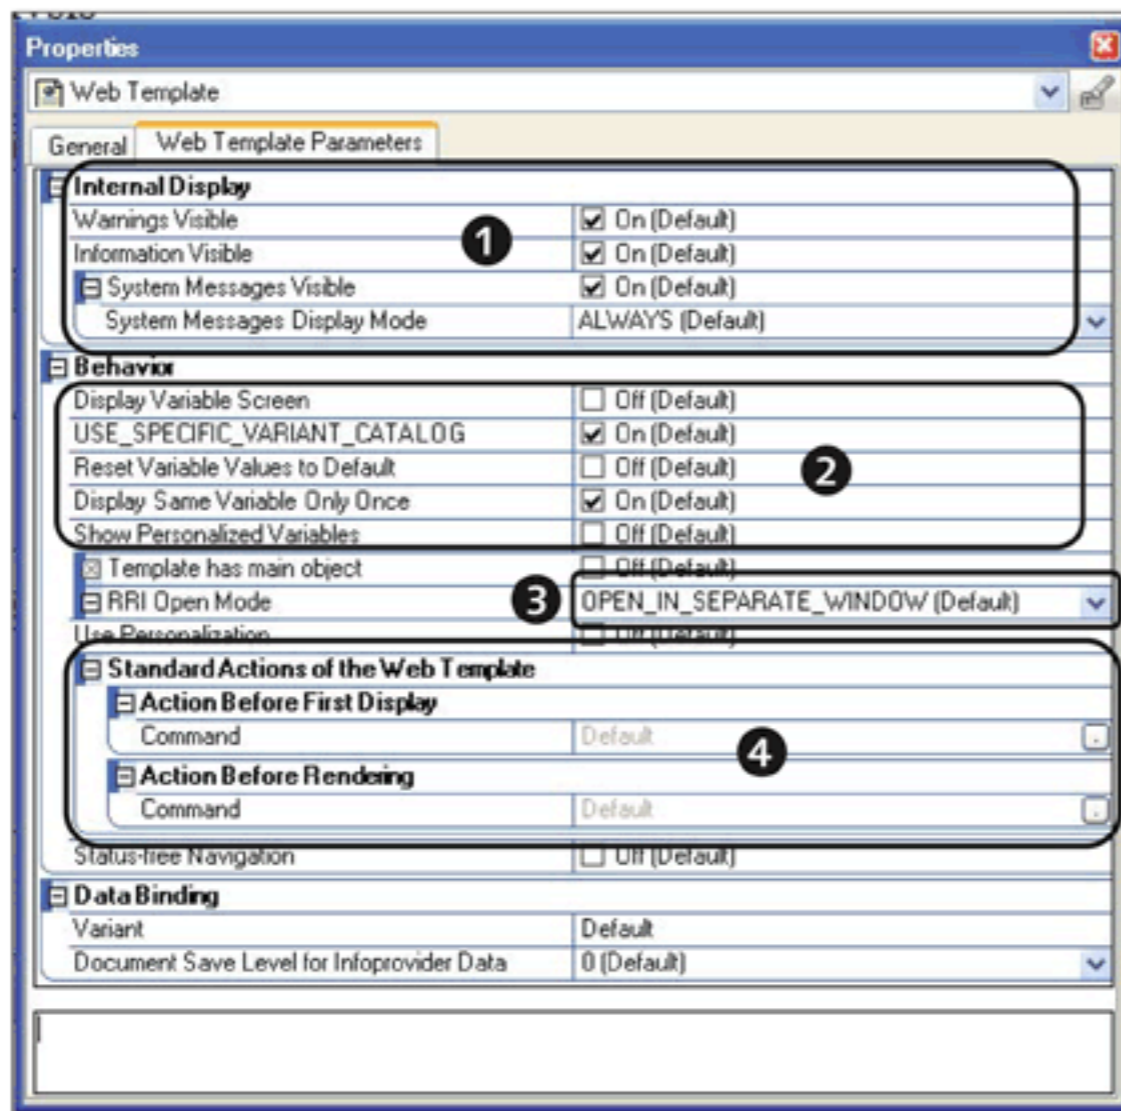

Figure 11.34 Web Template Properties
Before we conclude this chapter, let's consider the different properties that can be set for a web template. Similar to all web items included in the web template, the web template itself has a set of parameters that can be set based on individual requirements. The different parameters available for a web template are shown in Figure 11.34.
You can control the display of various system messages, information, warnings, and error messages in the web application. The INTERNAL DISPLAY parameters (❶ of Figure 11.34) are set based on your requirements. The parameters that impact how the web template acts with respect to the variables included in its data providers are available under the BEHAVIOR section (❷).